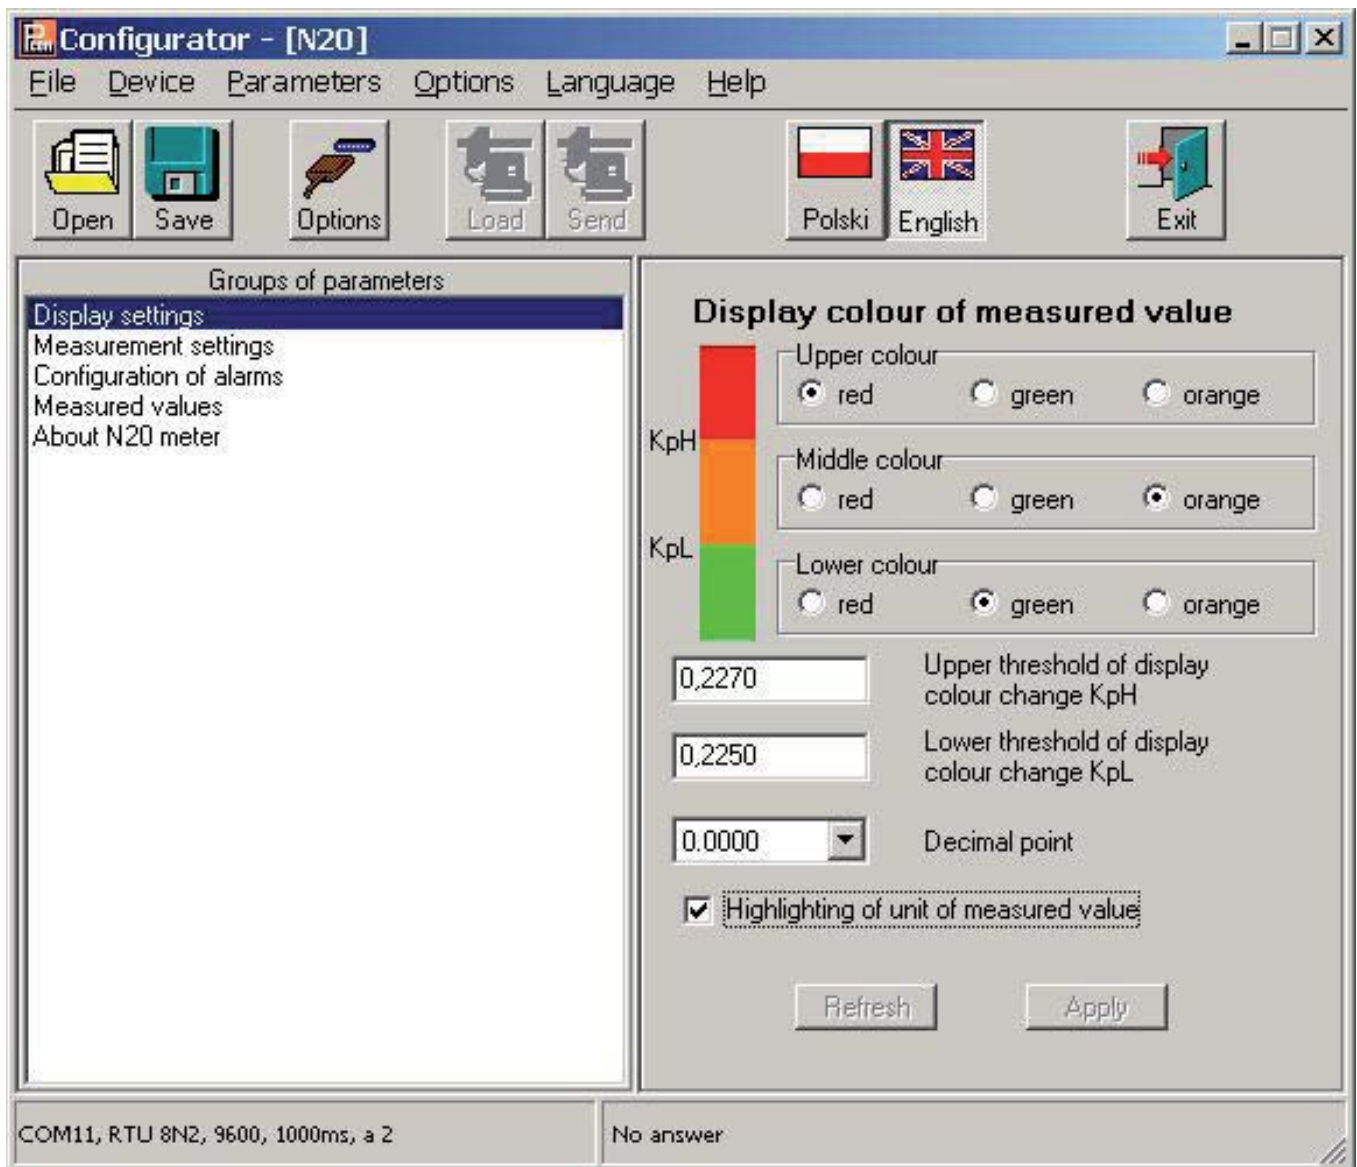

Fig. 8. Window view of the display parameter configuration
a) display colours of the measured value. The displayed range is divided into three zones separated by KpL and KpH values (suitably the lower threshold KpL and the upper threshold KpH of display colour change – fig.8). The colour of displayed numbers for each zone is selected from three accessible colours: green, orange and red. KpL and KpH values are set by the user and concern the displayed value (i.e. taking also into consideration the individual characteristic). The manufacturer value KpL is equal 100% of the rated value, however KpH is equal 105% of the rated value, e.g. for a 10 V meter execution they are respectively: for KpL – 10 V and for KpH – 10.5 V.